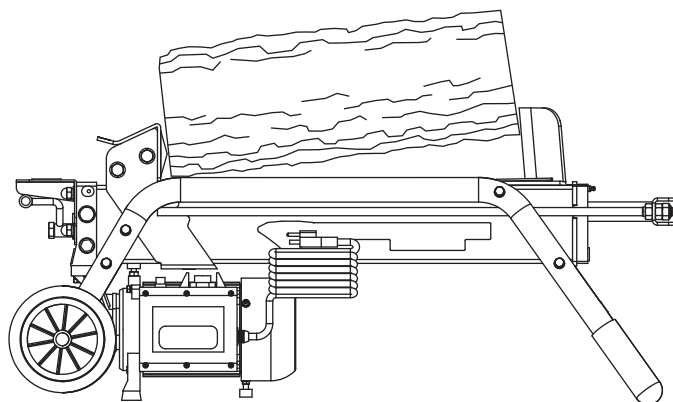

Figure 6
**TOUJOURS POSER LES BÛCHES FERMEMENT SUR LE REPOSE-BÛCHE ET L'ÉTABLI. VEILLER À EMPÊCHER LES BÛCHES DE TOURNER, BASCULER OU GLISSER DURANT LE FENDAGE. NE PAS FORCER SUR LE COIN EN FENDANT LA PARTIE SUPÉRIEURE DE LA BÛCHE. CELA CASSERAIT LE COIN OU ENDOMMAGERAIT LA MACHINE. (VOIR FIGURE 6)**